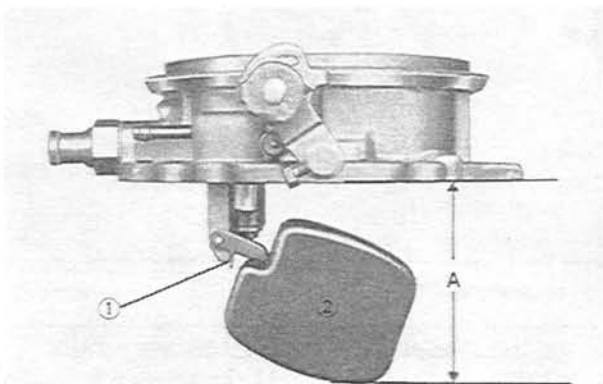

Fig. 4-8 Float level adjustment
Adjust the maximum fuel quantity coming in through the needle valve by bending the float seat lip so that the distance (A) between the lowest part of the float and the lower face of the air horn is 55 ~ 56 mm (2.1 ~ 2.2 in), as shown in Fig. 4-8.